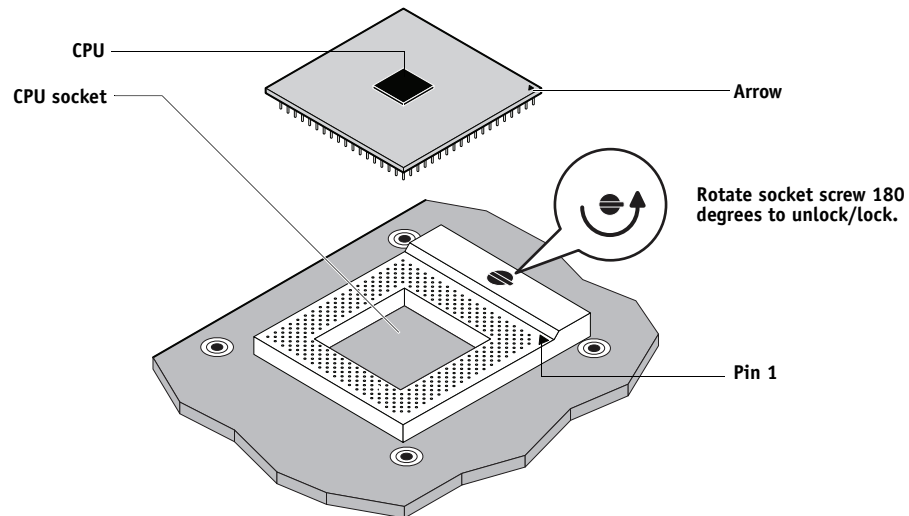

FIGURE 27: Removing/replacing a CPU
8. Unlock the CPU socket (see Figure 27).
Make sure that you align the arrow on the CPU with the arrow indicating pin 1 in the CPU socket (see Figure 27 on page 78).